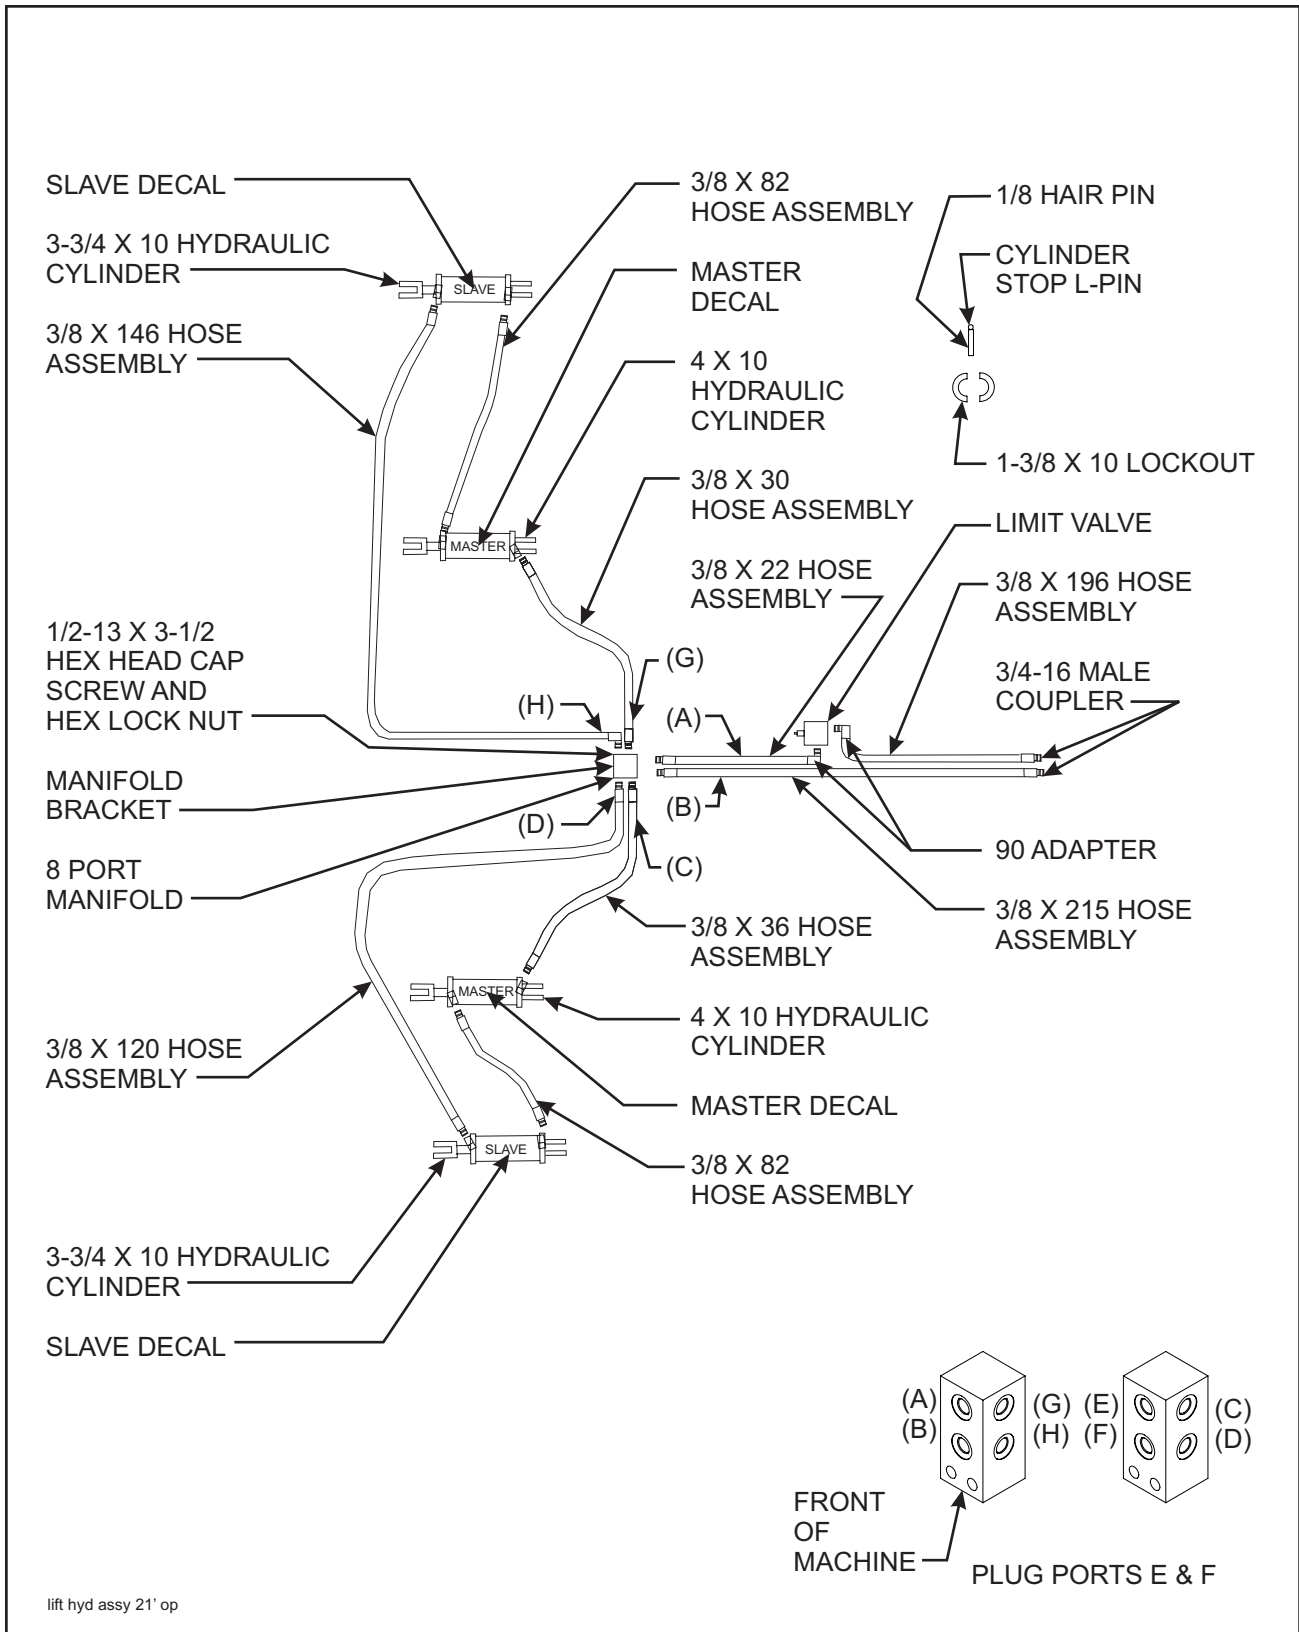

Figure 3-10 Lift Hydraulic Installation (21' Model)
Note: Refer to Figures 3-10 - 3-21 for lift and fold hydraulic diagrams for each disc model.
- 3-11.9 Install lift system hoses per **Figures 3-10, 3-12, 3-14, 3-16, 3-18, and 3-20.**